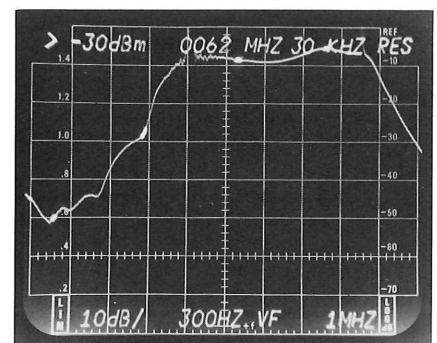

Figure 6-9. Swept modulator response using 1405. Markers are at 1.25 MHz, 3.58 MHz and 4.75 MHz.
7. Rock the FINE control on the 1405 to maximize the response. Set RESOLUTION BANDWIDTH to 30 kHz and again rock the FINE control for maximum response amplitude. Select a video filter to smooth the response (figure 6-9).